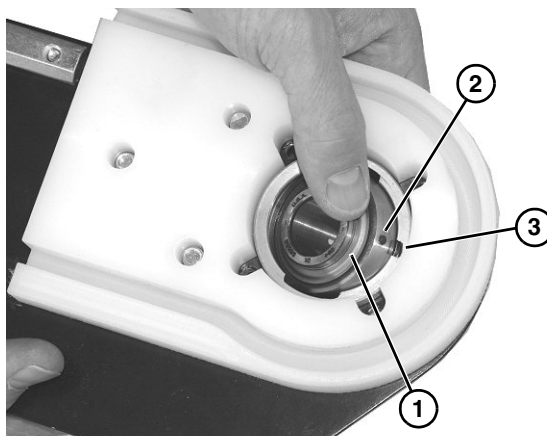

Figure 49
2. Insert bearing (**Figure 49, item 1**) into housing slot: Locate anti-rotation nub (**Figure 49, item 2**) to align with slot (**Figure 49, item 3**), and twist bearing into housing.